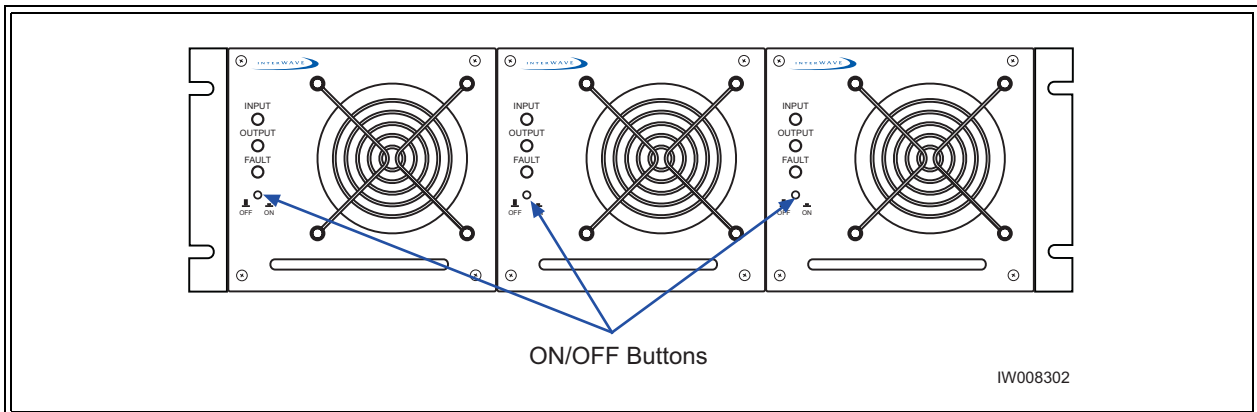

Figure 2-8 Power Supply ON/OFF Buttons
- 2 Make sure that the power button located on all power supply modules is in the raised OFF position. See Figure 2-8 for the location of the power supply power buttons.